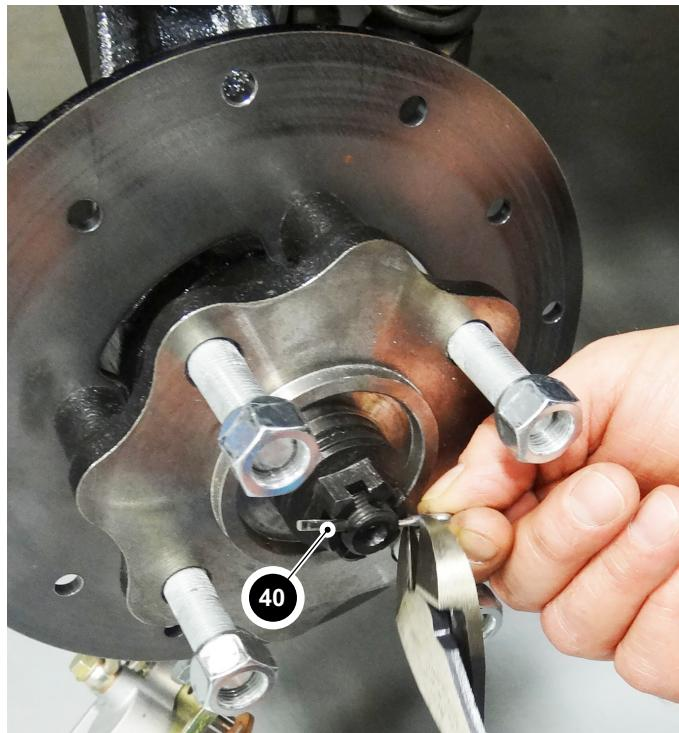

Fig. 2 Remove Cotter Pin
4. At the center of the hub, remove the cotter pin (40), axle nut (23) and washer (24) from the axle (Ref. Fig. 2)(Ref. Fig. 3).